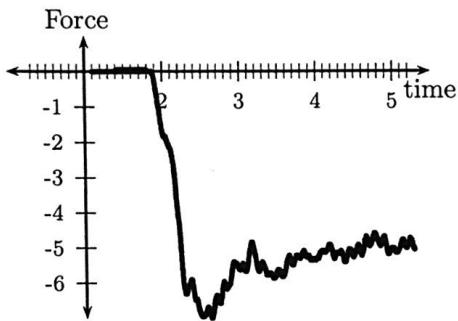

Figure 2: Force versus time for a block that is pulled from rest.
- d) Gently pull on the block with the force sensor. The block should initially remain at rest and eventually start moving. Once the block is moving try to keep it moving at a constant speed. You should obtain a plot of force versus time similar to that of Fig. 2. The force sensor is configured to read negative forces
when it is pulled; thus the graph is beneath the horizontal axis. Key features that **must appear** in your graph are: first a large downward spike, second a slight upward rise and, third an approximately horizontal section. In Fig. 2 the downward spike reaches a maximum at about 2.5 s and the slight upward rise occurs between 2.5 s and 3.0 s. Between 3.0 s and 5.0 s the graph is roughly level. There will usually be many smaller erratic and jagged fluctuations. Repeat the experiment until you obtain a graph with the large downward spike followed by the upward rise and approximately level section. Save your data.